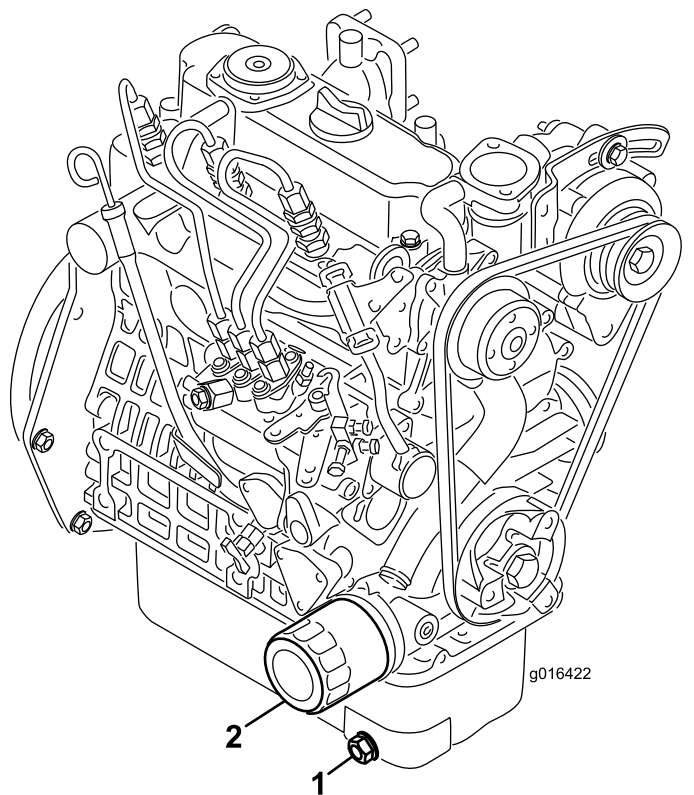

Figure 34
1. Remove the drain plug (Figure 34) and let the oil flow into a drain pan. When the oil stops, install the drain plug.